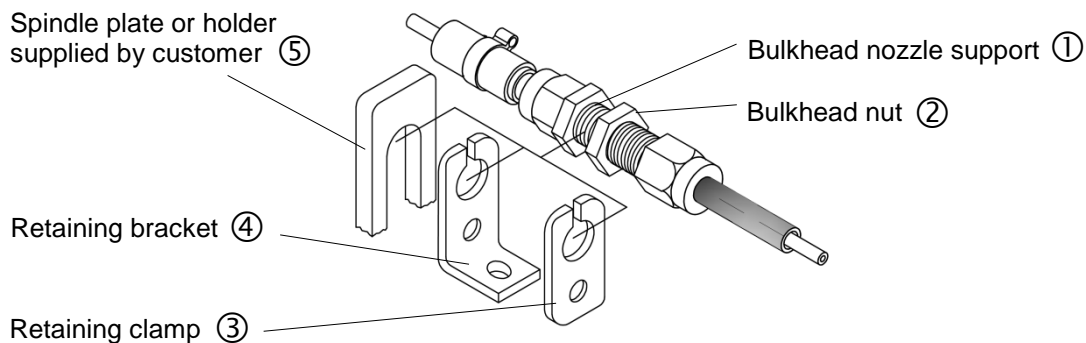

Fig. 5: Bulkhead nozzle support
- 4.5 The bulkhead nozzle support (Fig. 5 ① M10x1, clamping length  $s \leq 10$  mm) is fixed by the bulkhead nut (Fig. 5 ②) close to the place of use, e.g. in a spindle plate (Fig. 5 ⑤ supplied by the customer) or fastened by means of a retaining clamp (Fig. 5 ③ option) or retaining bracket (Fig. 5 ④ option), so that the nozzle can be oriented in the optimal direction and at the shortest possible distance from the lubrication point or point of need (e.g. at the tool) (see separate TECHNICAL SPECIFICATIONS "Nozzle support" and "Lubricant film application").